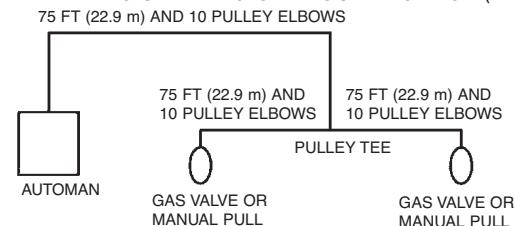

FIGURE 123
**Example:** If 10 pulley elbows are placed between the AUTOMAN and the pulley tee, the maximum available pulley elbows left for use on each side of the tee is 10 per side. See Figure 123 for three different examples. (**Note:** Both must be gas valves or both must be pull stations. Mixing is not allowed.)
**Example:** If 10 pulley elbows are placed between the AUTOMAN and the pulley tee, the maximum available pulley elbows left for use on each side of the tee is 10 per side. See Figure 123 for three different examples.